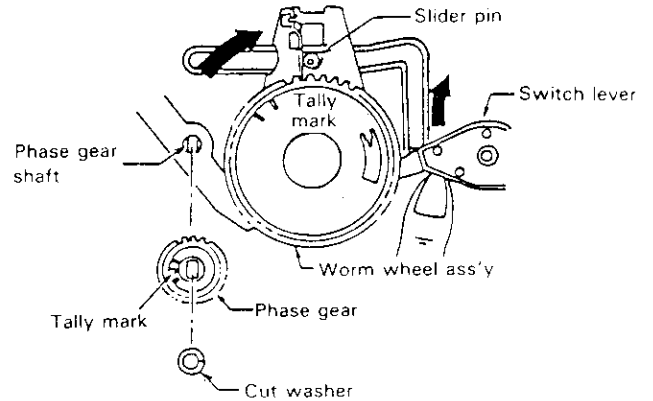

Figure 1-7.
5. Place the slider pin just above the worm wheel (Figure 1-7). (The retainer of the slider is locked at two positions hem. So unlock it as in the Figure 1-8.)
6. Pull out the worm wheel assembly toward you pressing the switch lever upward. (Figure 1-7)